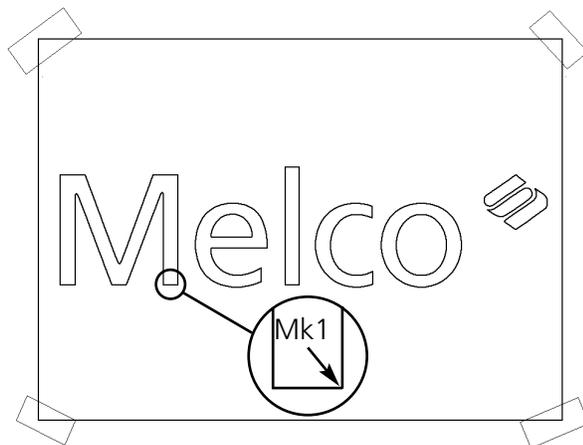

Figure 3-10
2. Enter a Mk1 at the location on the artwork where you want to “start” the design. This identifies the location for the needle entry starting the first stitch. In our example, we will enter in the lower right leg of the capital letter **M** (see Figure 3-10).